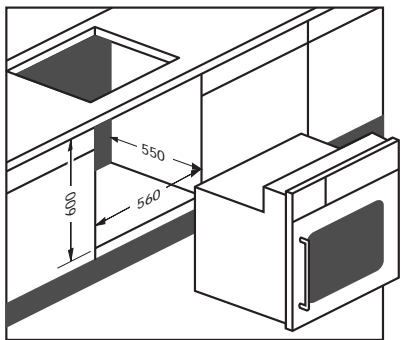

Fig. 6
**Combination of oven 950/952 with Pelgrim cooker** (see Figure 6)